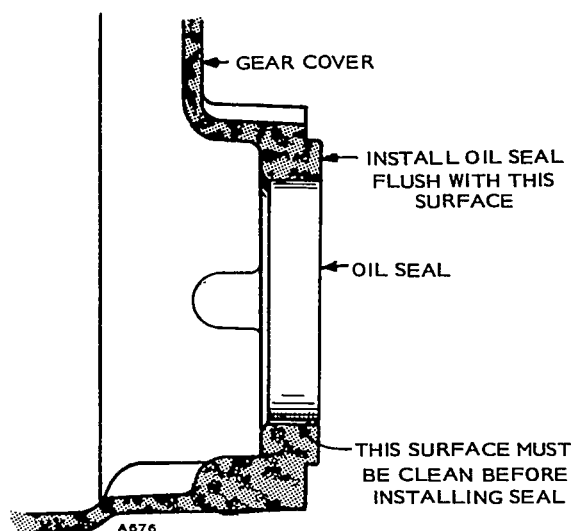

FIGURE 53. GEAR COVER OIL SEAL
Gear Cover Oil Seal: Replace the oil seal if damaged or worn. Drive the oil seal out from inside the gear cover. Lay the cover on a board so the seal boss is supported. Using an oil seal driver, insert the new seal from the inside with rubber lip toward outside of gear cover (open side of seal inward) and drive it flush with the outside surface. During gear cover installation, use the driver to protect the oil seal. See Figure 53.
4. Coat oil seal lip with oil or grease. Apply a piece of masking tape over the crankshaft keyway to protect seal and install gear cover. Tighten mounting screws to 15 to 20 foot-pounds (20 to 27 Nm). Before tightening screws, be sure the stop pin is in governor hole. See Figure 53.